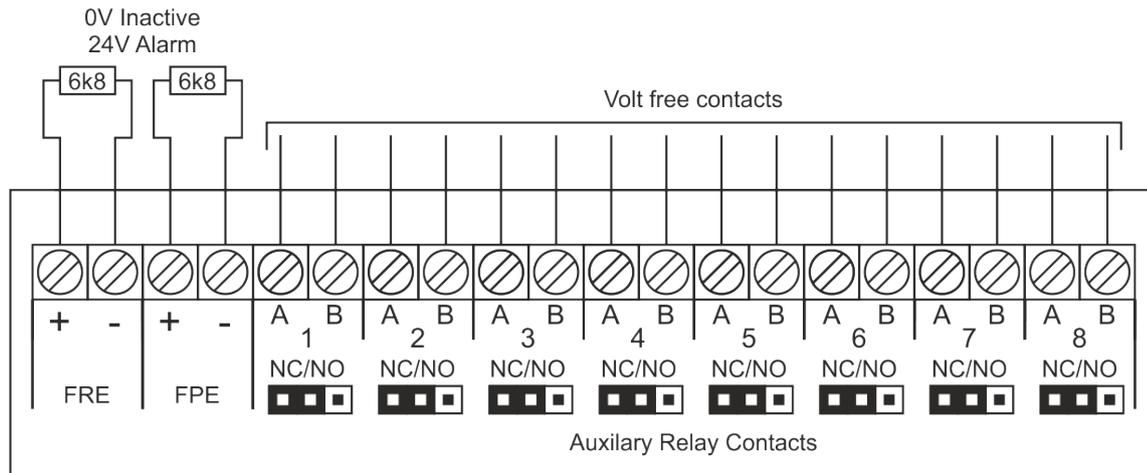

Figure 24: Option Board Terminal Connections
- In order for the Interlink to operate correctly the zone inputs on both panels being used for interlinking must be set to unlatched, therefore the associated switch on SW4 must be set to the "Unlatched Zone x" setting (see Figure 24).